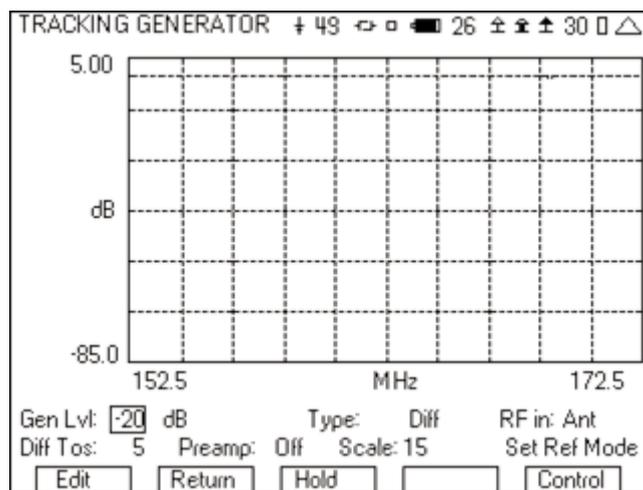

Figure 31 - Tracking Generator screen
12. The screen should now look like Figure 31.